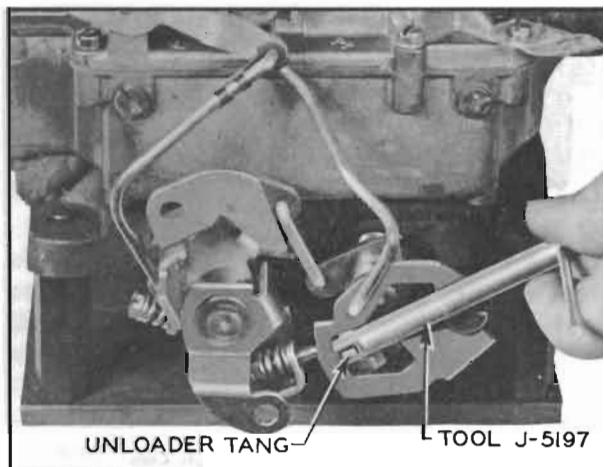

Figure 3-85—Adjusting Choke Unloader
5. If choke valve clearance is not correct, bend unloader tang as required to obtain specified clearance using Tool J-5197. See figure 3-85.